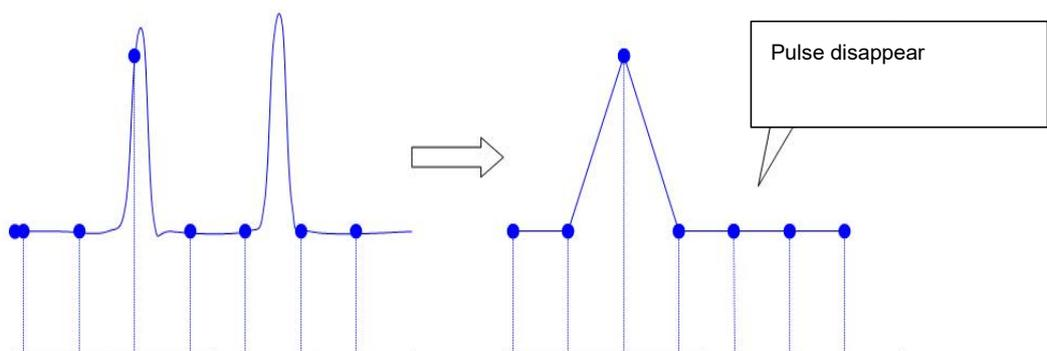

Figure 10-3
- ③ Waveform Leakage: Due to low sampling rate, the reconstructed waveform not reflect the actual signal. As shown in Figure 10-3.